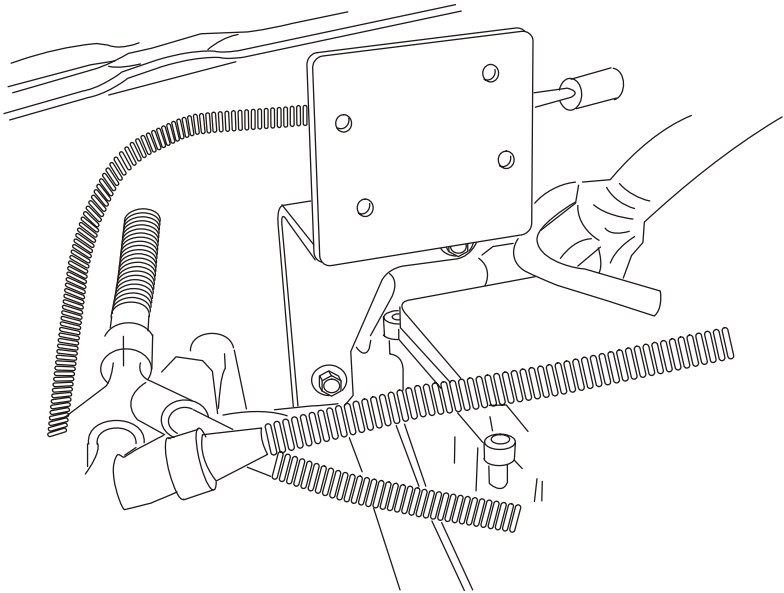

Figure 4.1
- Install the throttle control bracket to the inner fender on the passenger side of the vehicle over the top of the vacuum switch and secure in place using the OEM bolts (Figure 4.1).